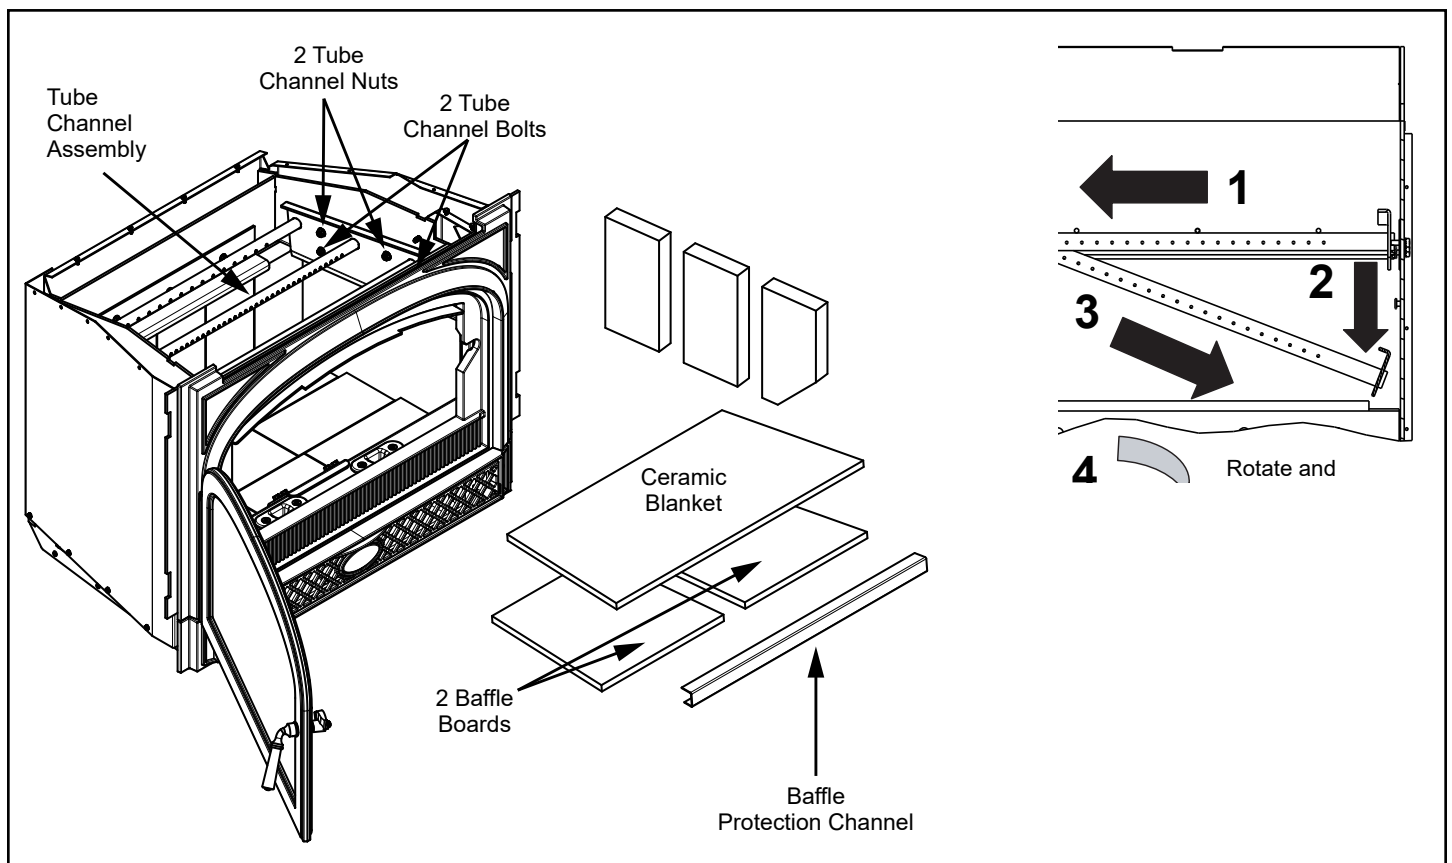

Figure 24.1
4. Slide the tube channel assembly all the way to left until it is off the threads. Drop the right side down, then slide the assembly back to right (**Figure 24.1**).